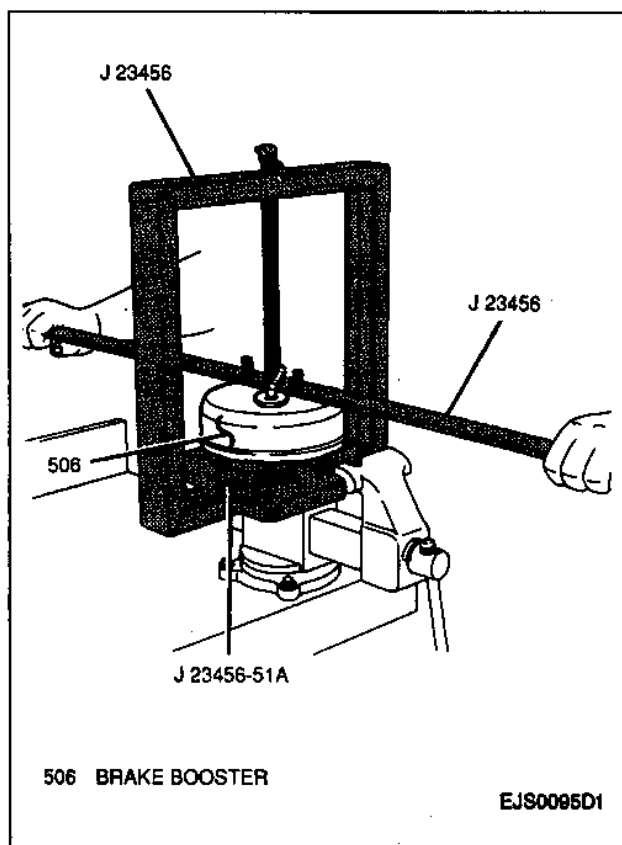
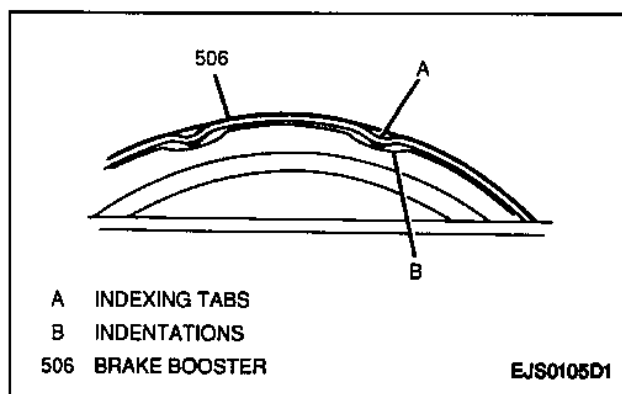

Figure 9—Rotating Brake Booster Front and Rear Bodies for Separation
Figure 10—Aligning Indentations with Indexing Tabs
- A. Using the J 23456 for leverage, rotate the front half of the booster (Figure 9) until all indexing tabs are aligned with indentations on the rear half of the booster (Figure 10).